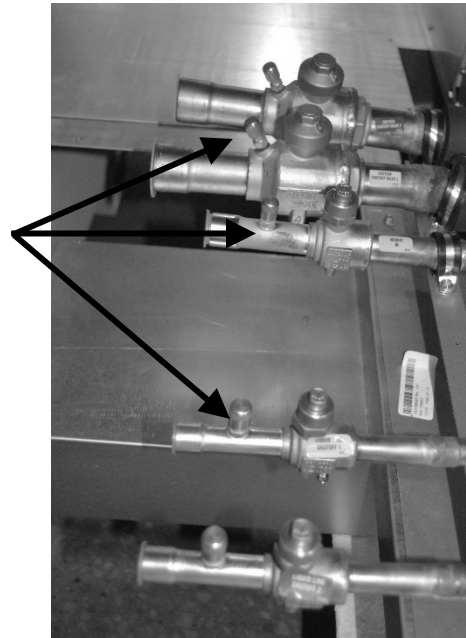

Figure 6 - CU evacuation connections
5. Connect the manifold set to the condensing unit with one hose on the suction line service valve, one hose on the liquid line service valve and a third hose on the reheat line service valve. The vacuum pump must be connected to the manifold set using a 9.5 mm (3/8") vacuum rated hose. Figure 6 shows two circuits. The first circuit has a reheat line, the second circuit is just the suction